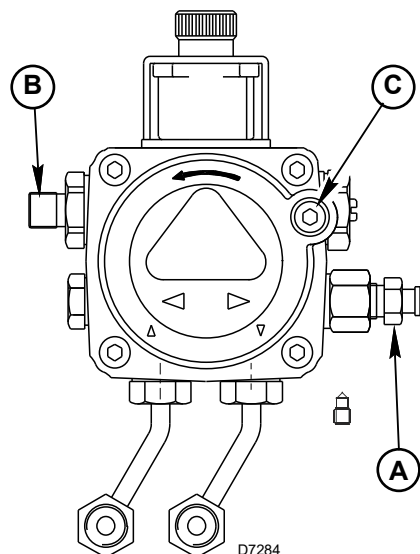

Fig. 17
To protect the pump gears, it is advisable to lubricate the pump prior to purging a lift system. Apply oil through the vacuum port C)(Fig. 17).
- A Loosen the bleeder valve A)(Fig. 17) until oil flows out. Tighten the bleeder valve securely and start burner.
- 1 Loosen the bleeder valve (A).